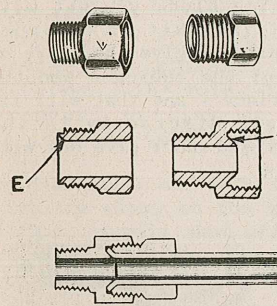

Figure 4
The fourth type, *Inverted Flare*, (Fig. 4) consists of a Body and a Nut and also requires that the tubing be flared. The thing to remember here is that the seat for the flare is on the inside of the body (D) and that the nut has a slight bell (E) on the end. When the nut is screwed in, the bell sandwiches the flare against the seat.